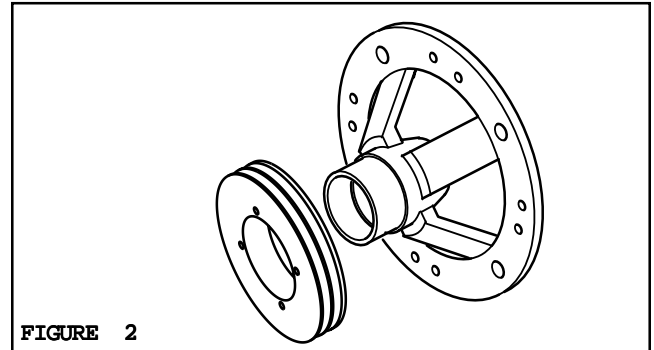

FIGURE 2
5. Use a Dial Indicator to minimize run-out as you tighten the Q.D. bushing pull-up bolts. To measure run-out, place the contact tip of the Dial Indicator on the machined surface of the Rotor. Maximum run-out must be less than 0.007" [18 mm]. Refer to Figure 2.